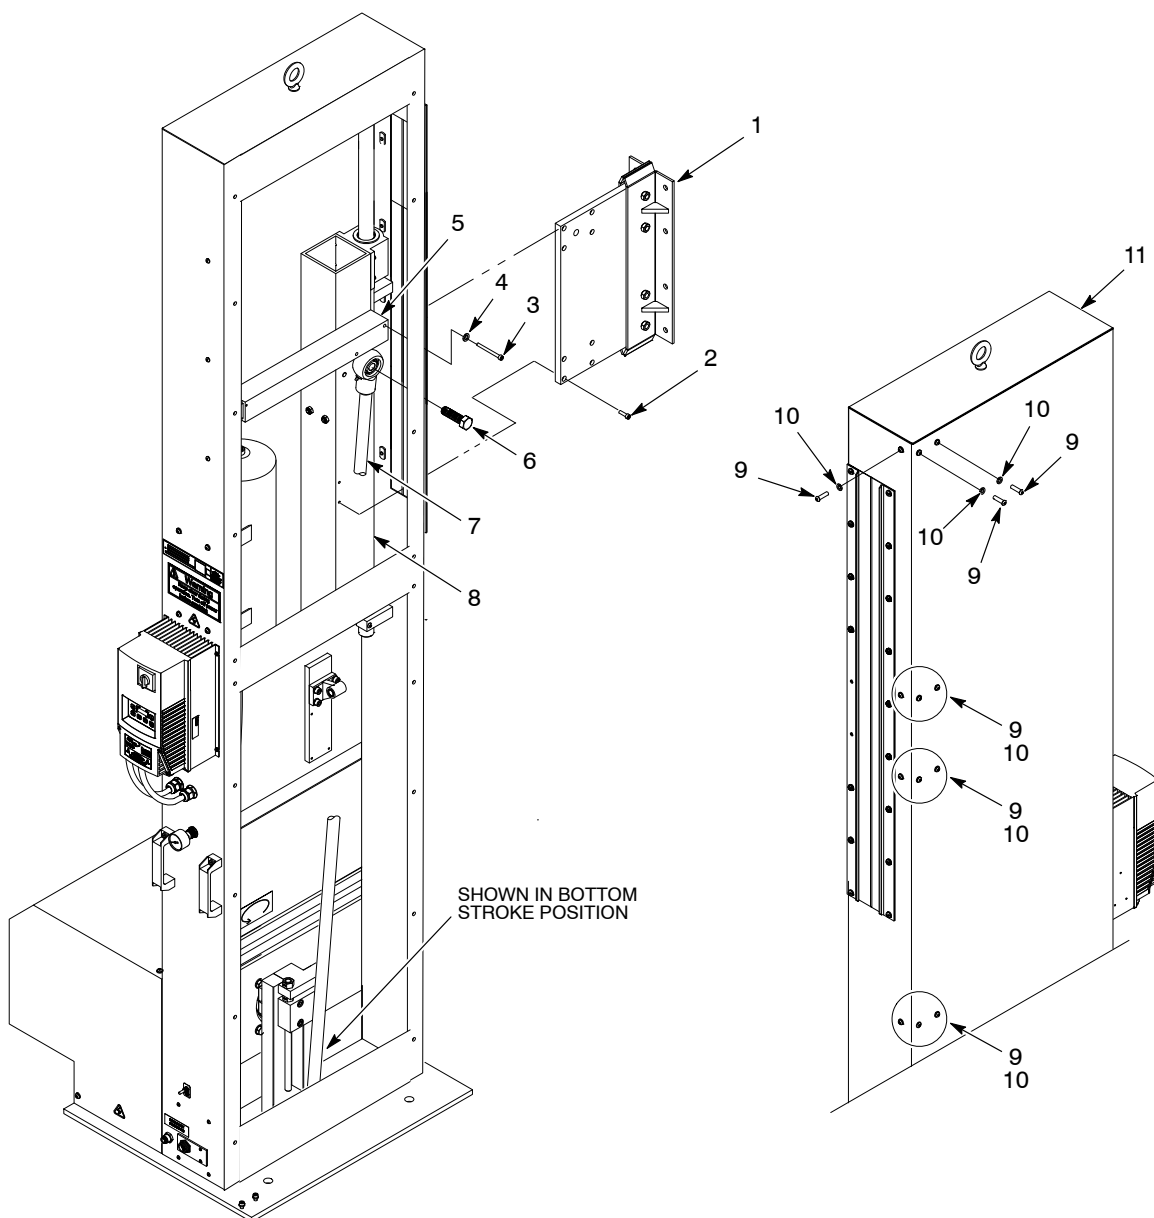

Figure 18 Installing the Bearing Assembly
1. See Figure 18. Have an assistant position the bearing assembly onto the oscillator (11). Secure the bearing assembly to the oscillator using the lock washers (10) and screws (9). Tighten the screws securely.
2. Install the gun carriage (1) to the mounting tube (8) using the screws. Tighten the screws securely.
3. Apply grease to the threads of the screw (6). Install the connecting rod (7) to the mounting tube (8) using the screw. Tighten the screw to 90–100 ft-lb. (120–135 N•m).
4. Install the stabilizer bar (5) to the bearing mount tube (8) using the lock washers (4) and screws (3). Tighten the screws securely.